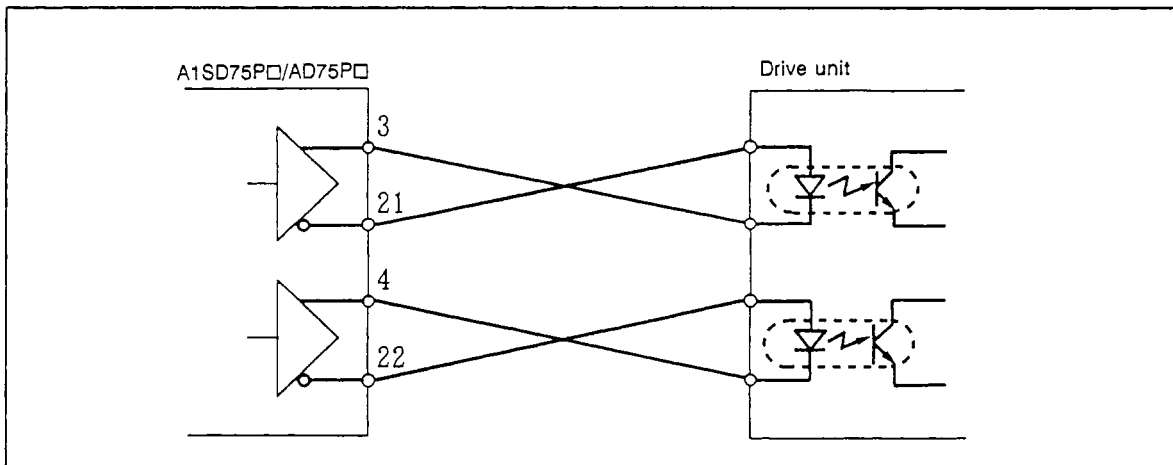

Fig. 3 Example of wiring in which command pulse logic does not mach
- If the A1SD75P□/AD75P□ and servo amplifier/stepping motor driver logic do not match, use a differential driver output, and cross the wiring as shown in Fig. 3. In this case, the open collector method cannot be used.